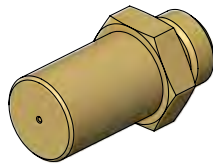

Figure 27: Elevated Burner Orifices (x2)
5. Convert the elevated burner orifices with the ones provided in this kit using a **ratchet with a 1/2" deep socket and a 5/8" wrench**. Use the 5/8" wrench to hold the base nut of the burner orifice while using the 1/2" deep socket to remove the orifice (figure 27 & 28). The left and right elevated burners have the same orifice size.